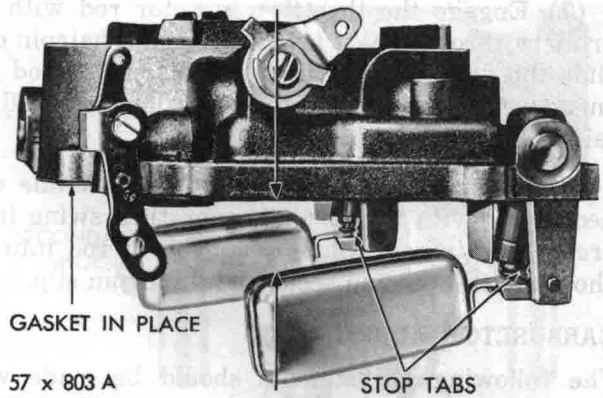

Fig. 68—Checking Float Drop
(1) Holding the air horn in an upright position, measure the distance from the top of the floats (outer end) to the air horn gasket, as shown in Figure 68. This measurement should be  $\frac{3}{4}$  inch. If an adjustment is necessary, bend the stop tabs on